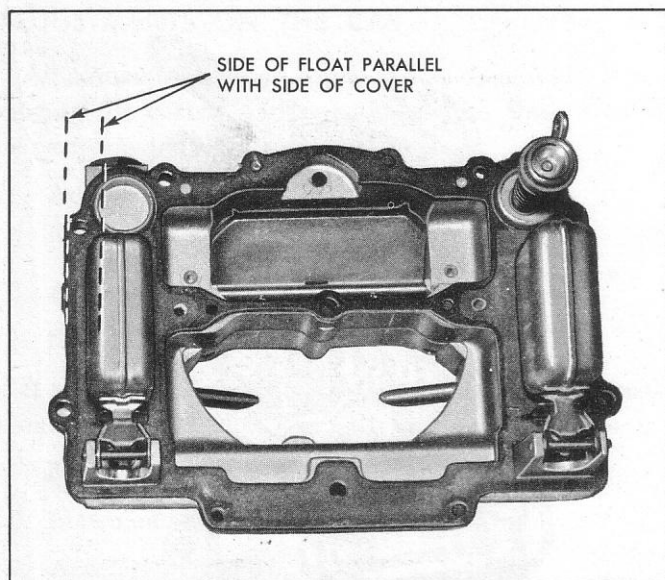

Fig. 98—Aligning Floats
5. Align Float. Sight down side of float to determine if side is parallel with outer edge of air horn. If adjustment is necessary, bend float lever by applying pressure to end of float with fingers while supporting float lever with thumb (fig. 98).